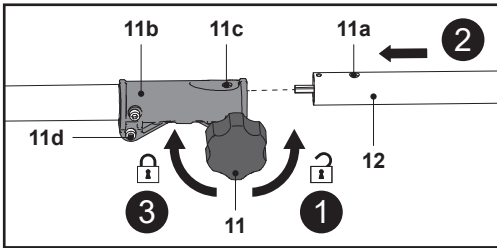

Fig. 1
1. Loosen the lock knob (11) anticlockwise (Fig. 1, step 1).
2. Align the lower pole (12) with the locking sleeve (11b) and insert it (Fig. 1, step 2). Make sure the pin (11a) matches the bore (11c).
4. Secure the connections with the lock knob (11) (Fig. 1, step 3).